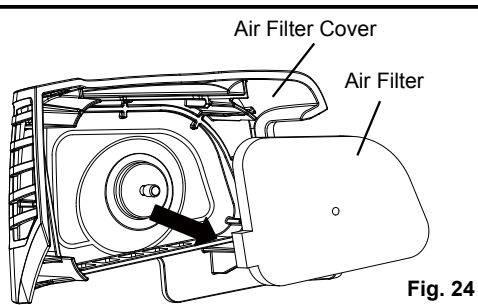

Fig. 24
- Remove the air filter from the air filter cover (Fig. 24).